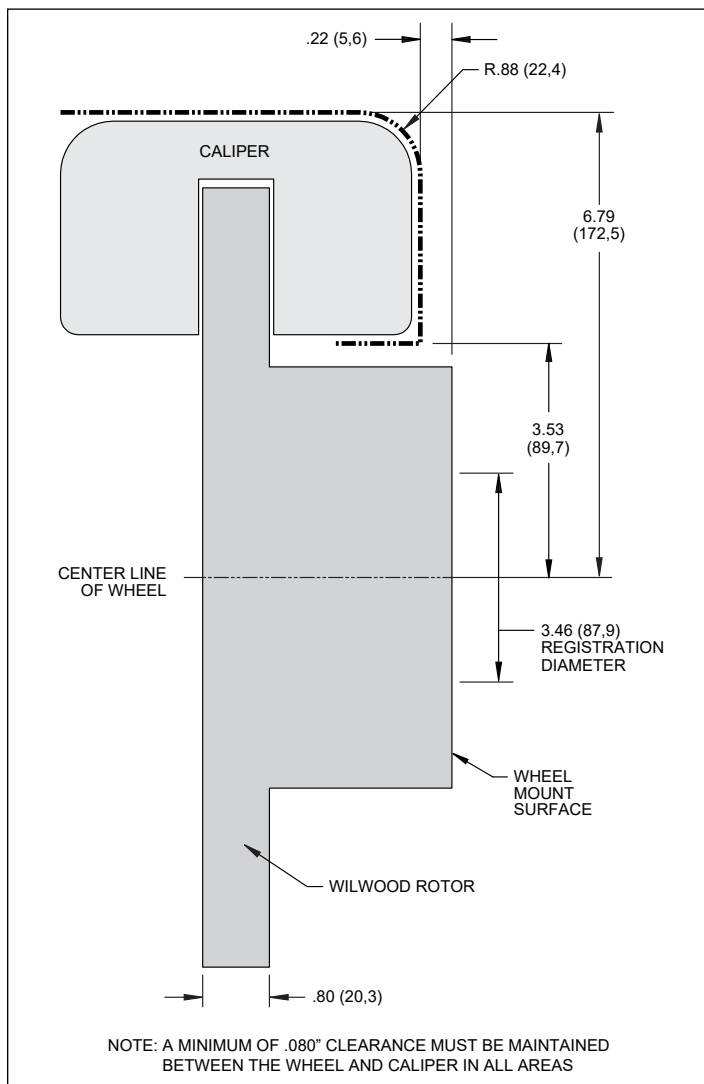

Figure 2. Wheel Clearance Diagram, p/n 140-17655
- Review the appropriate wheel clearance diagram for the kit you have purchased (Figures 2 or 3, page 3) to verify that there is adequate clearance with the wheels you will be using with the installation.
Verify your wheel clearance using Figures 2 or 3.